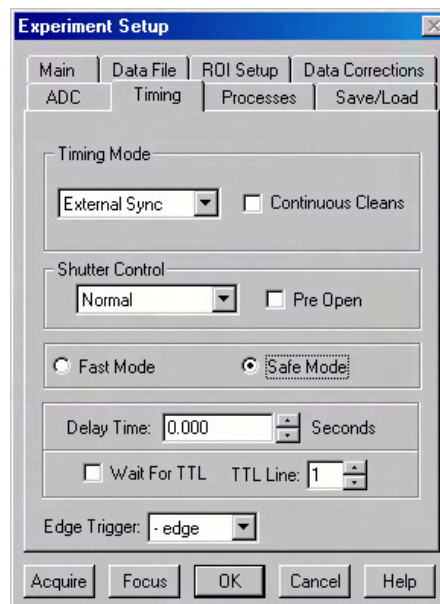

Figure 48. Timing tab page
3. On the **Timing** tab page (Figure 48) set the following parameters.